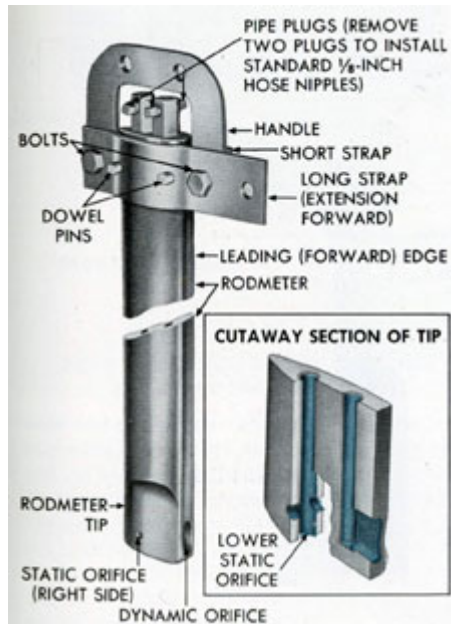

Figure 13-9. Bendix rodmeter.
**13C4. Installing the spare rodmeter.** (See Figure 13-9.) The spare rodmeter is equipped with straps and handle. If the damaged rodmeter is partially raised, push it downward until the dowel pins rest on top of the packing gland on the sea valve extension. Remove the two pipe plugs from the spare rodmeter and install the hose fittings. Connect the hose to the spare rodmeter and tighten the hose clamps securely. Place the tip of the spare rodmeter on top of the damaged rodmeter. Drive out the dowel pins from the damaged rodmeter. Push downward on the spare rodmeter until it is completely free of the ship. Connect the link on the chain hoist to the rodmeter handle. Vent the hydraulic system in accordance with the instructions given in Section 11A5.